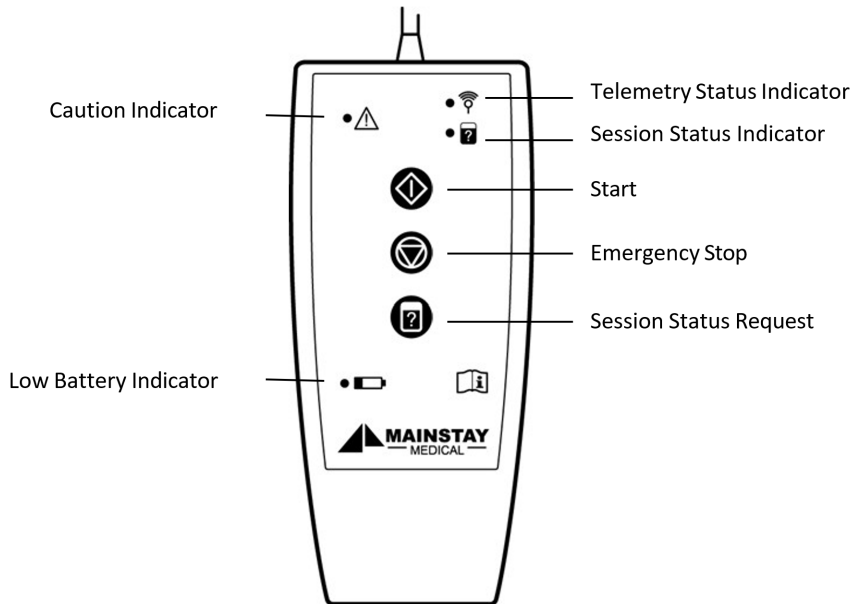

Figure 3: Activator control module
The Activator (*Figure 2*) is a device that you use to start or stop stimulation. It can also be used to check the status of the IPG, e.g. if the IPG is ready to deliver stimulation. The antenna is connected with a long cable to the hand-held Activator control module (*Figure 3*) for ease of operation and viewing.
- Observe the Telemetry Status Indicator (see *Figure 3*):